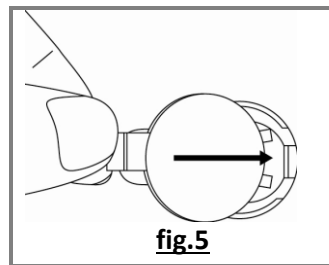

fig.5
- d. Put a new lithium battery CR2032 (3V) by placing the battery under the large black plastic tab (**fig.5**).